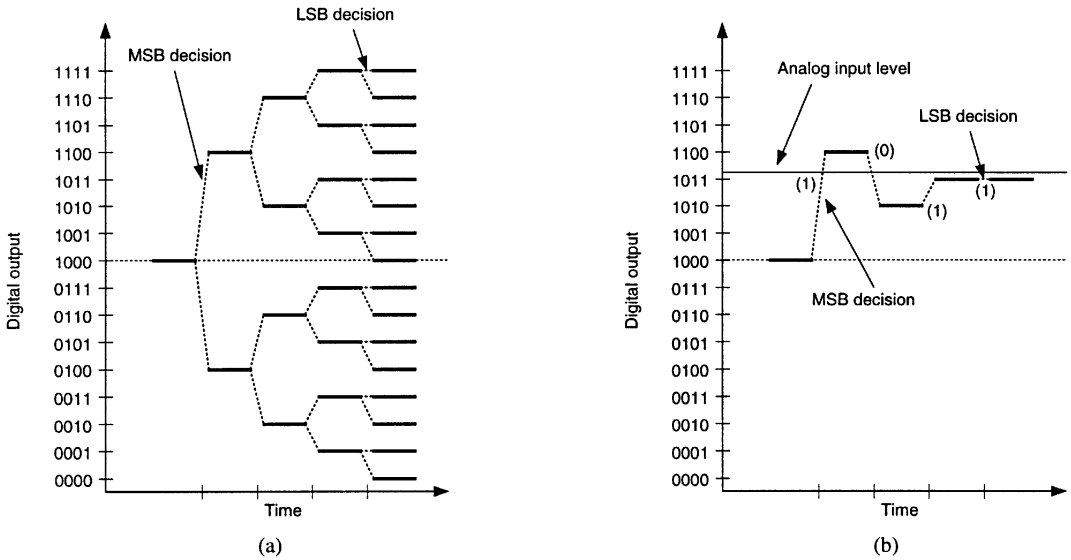

**FIGURE 85.10** A flash converter has  $2^n - 1$  comparators operating in parallel. It relies on the uniformity of the resistors for linearity.
*Flash* converters are the fastest ADCs, achieving speeds near 1 GS/s and resolutions of 10 bits and below. The flash converter with  $n$  bits of resolution has  $2^n - 1$  high-speed comparators operating in parallel (see Figure 85.10). A string of resistors between two voltage references supplies a set of uniformly spaced voltages that span the input range, one for each comparator. The input voltage is compared with all of these voltages simultaneously, and the comparator outputs are 1 for all voltages below the input voltage and 0 for all the voltages above the input voltage. The resulting collection of digital outputs from the